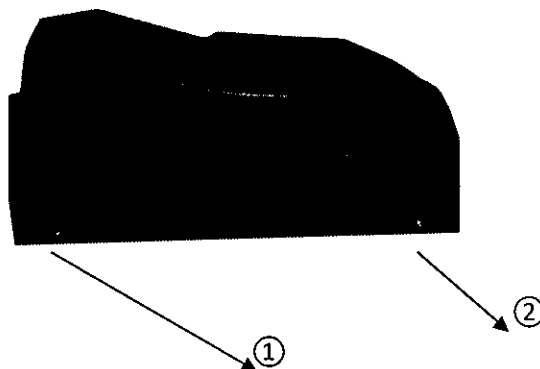

Fig. 2-1
- 3) Remove the three screws on the front of the bottom of the spectrophotometer(Fig2-1)